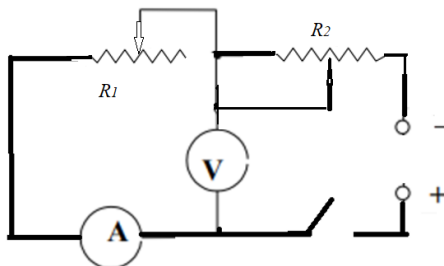

Fig. 6.1. Setup scheme
1. Draw a measurement diagram, verify Ohm's law and determine the dependence of current on the voltage across the resistor (Fig. 6.1).